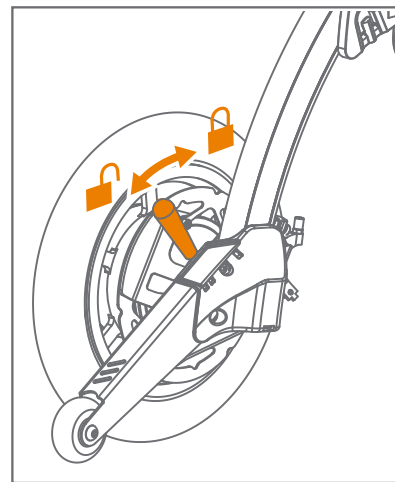

Figure 55: To set into freewheel mode.
2. Move both levers at the back of the rollator to the backward position (**Figure 55**).